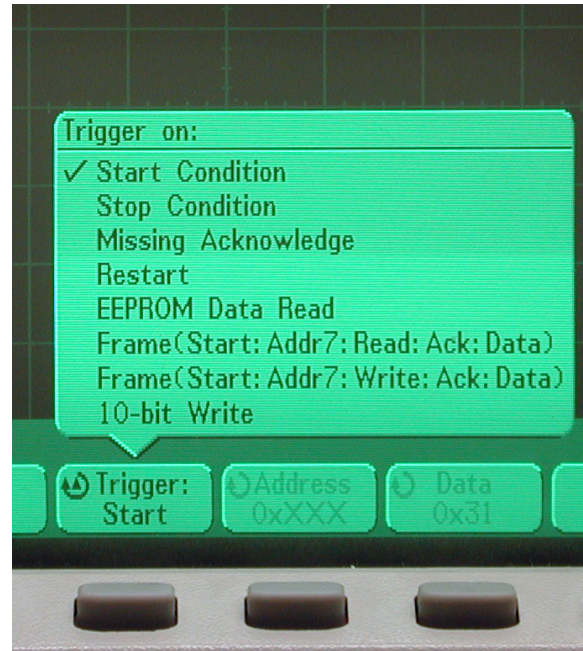

Figure 15: Agilent trigger conditions
14. Check the label on the third softkey to make sure it says "Trigger: Start". If it doesn't, press this key to bring up the "Trigger on:" menu (Fig. 15) and then press the button enough times to select "Start condition".